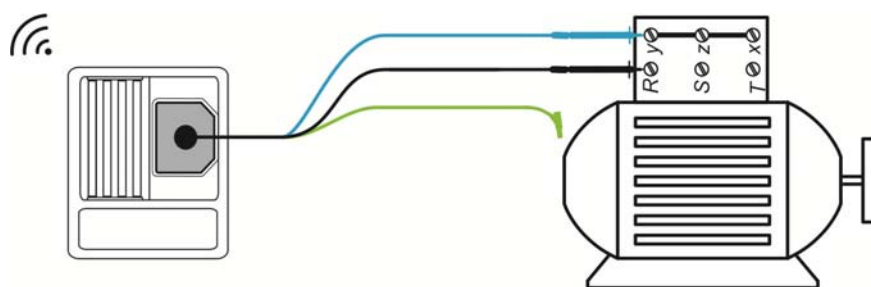

Figure 5.11: Tip commander and 3-wire test lead applications
- ❑ **Connect** test leads to the tested object (see Figure 5.11).